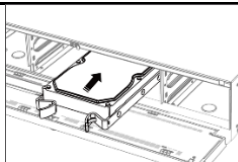

Figure 2-6 Insert HDD
**Step 3** Insert the HDD until it is firmly fixed. Refer to Figure 2-6